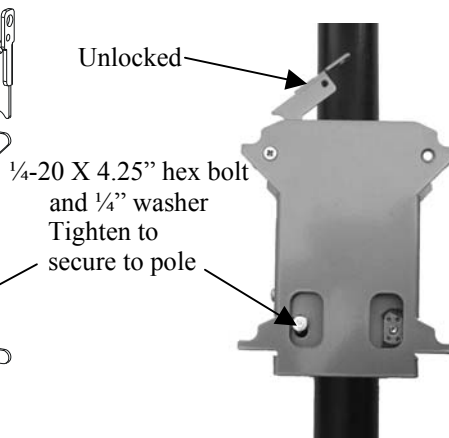

Figure 4
2. For vertical pole mounting, install the pole-mounting bracket on 1 1/2" to 2" OD pipe/pole and secure using 7/16" hex drives (see Figure 4).
1. Make sure both latching flags on pole-mounting bracket are in the unlocked position (see Figure 4).